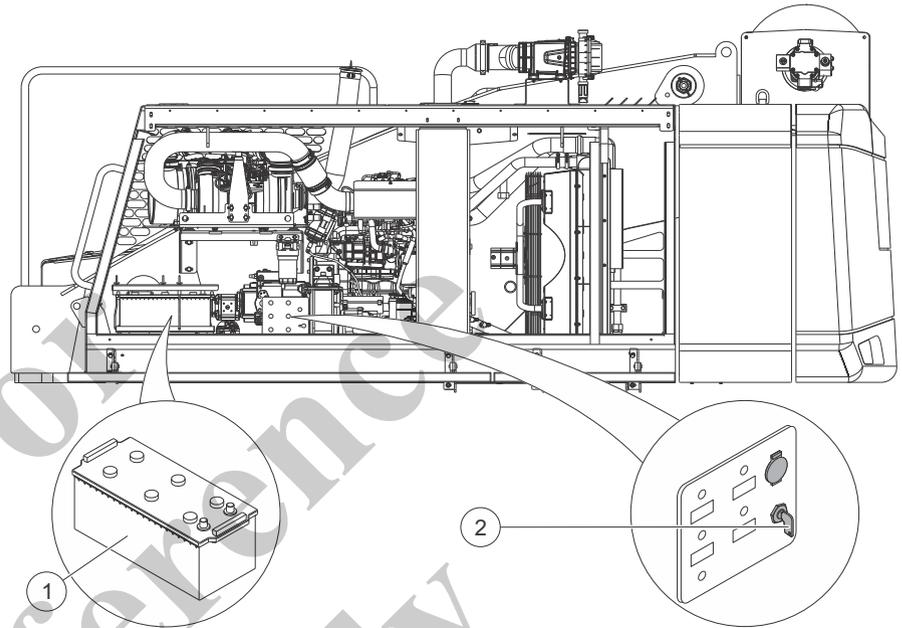

Fig. 238 Battery and battery disconnect switch
| 1 | Press the battery disconnect switch (2) in Fig. 238. |
| 2 | Clean the terminals and cables of the battery (1) in Fig. 238, make sure they are seated properly and apply terminal grease. |